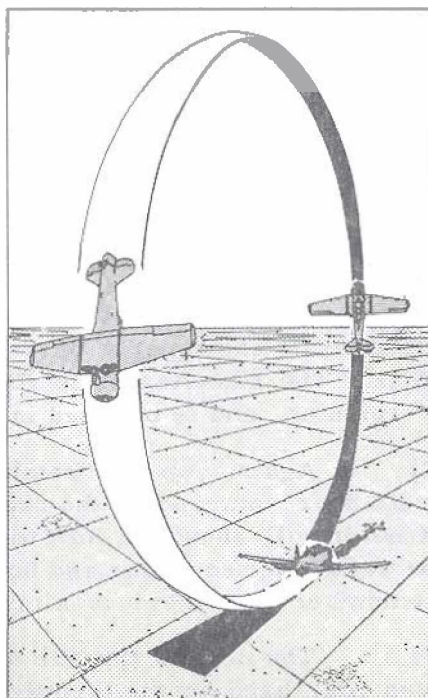

Figure 1: The Loop
(1) As shown in Figure 1, a loop is a 360 degree turn in the vertical plane; consequently it is mainly controlled by the elevators; the ailerons and rudder being used for co-ordination and maintaining direction. During the clearing turns you should pick a ground reference, such as a straight road or section line, to keep the aircraft orientated directionally.
(2) To start the exercise the airspeed must be 155K, and the best way to build up this speed is to dive the aircraft through the last clearing turn. As the airspeed approaches 155K, roll out of the turn parallel to the reference line and release the forward pressure, thus raising the nose smoothly to the horizon as the airspeed reaches 155K. Just before the nose reaches the horizon, exert increasing back pressure until the aircraft is moving upwards at a constant rate. Hold the wings level with aileron and keep directional control with rudder. Remember, changing airspeeds require changing applications of rudder.
(3) During the pull-up, centrifugal force will cause you to feel that you are being pressed down into the seat: this pressure can be used to help you to judge the proper rate of movement. If there is very little seat pressure, the rate of pull-up is not fast enough, and vice versa. When you can no longer see the horizon ahead, look out at the wing tips and keep them equidistant above the horizon with aileron. Maintain steady directional control. When the wing tips appear to be vertical to the horizon, move your head back until you can see the approaching horizon on the other side of the loop. Use this new horizon as a datum line for keeping the wings level, and for maintaining direction.
(4) Approaching the inverted position a small amount of back pressure should be released, but not enough to remove the centrifugal pressure. This is done to prevent a stall at the low airspeed encountered at the top of a loop. As the airspeed decreases, right rudder pressure must be increased to counteract yaw and thus maintain direction. Most right rudder pressure is needed at the top of the loop where the speed is lowest. Shortly afterwards, as the nose descends through the horizon, the back pressure will have to be reapplied to keep the nose moving back to the level-flight attitude at a constant rate. As the speed builds up in the descent, the right rudder pressure must be released to keep the nose parallel to the reference line. Seat pressure should be definite and fairly steady throughout the